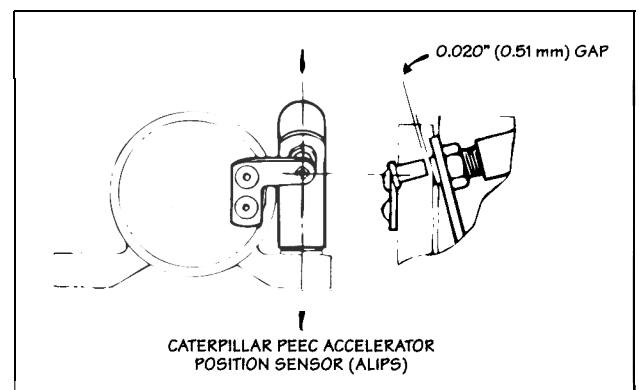

FIG. 1.1.13
**Correction:** If the previous reading was 5 volts, connect the positive (+) probe to the pink wire and the negative (-) probe to the brown wire. With the accelerator in the low idle position, the VOM should read 0 volts. If the reading is not 0 volts, the clearance between the magnet and sensor may be too large or the magnet may not be in line with the sensor. If necessary, realign the magnet and sensor and readjust the clearance to 0.02" (0.51 mm) (Fig. 1.1.13). If the volt meter still does not read 0 volts, replace the sensor assembly.